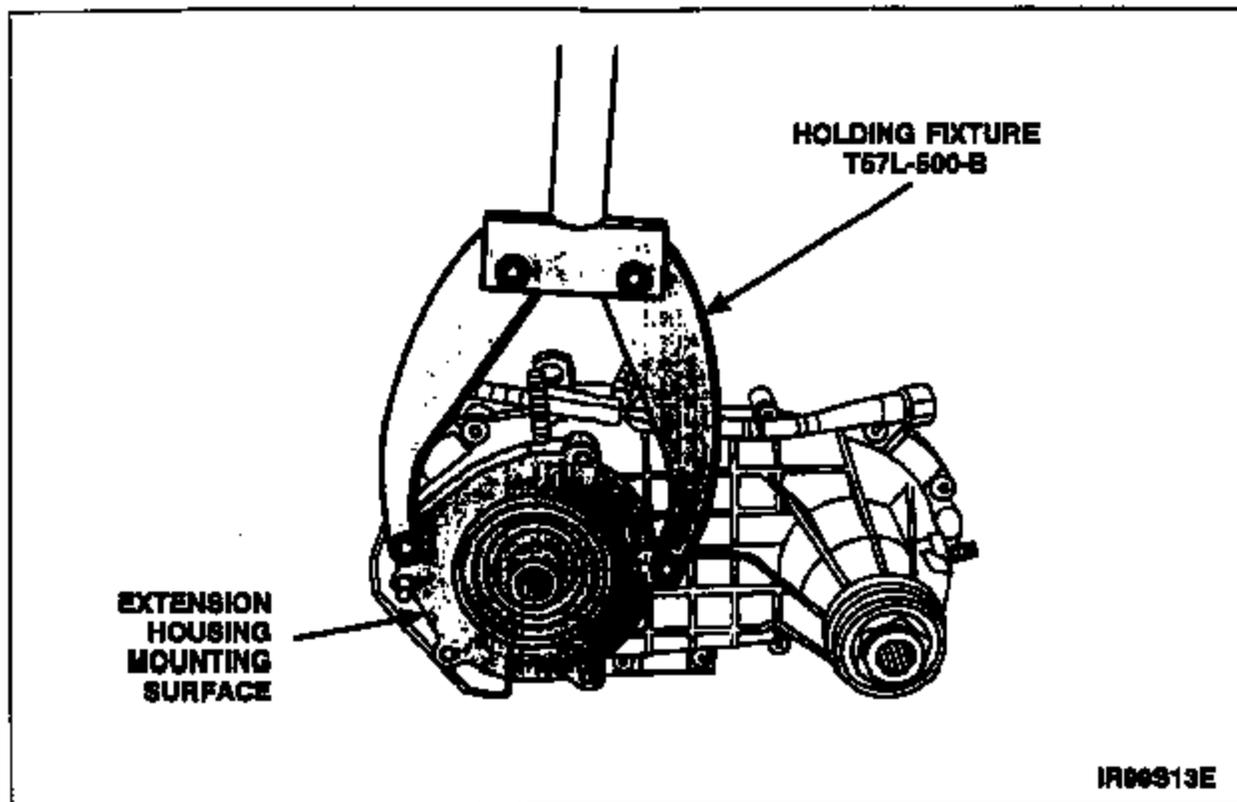

FIGURE 5
23. **NOTE:** The bench that the holding fixture base is attached to should be anchored to the floor. Using the extension housing bolt holes, mount the Holding Fixture T57L-500-B to the transfer case. See Figure 5. Install the Holding Fixture in the bench mounted base.